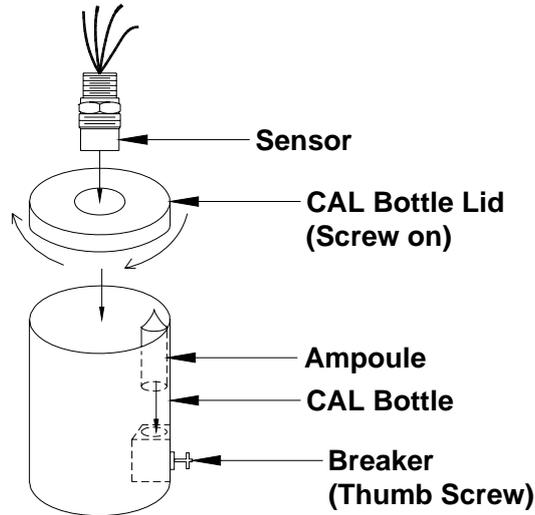

Figure 14 – Breaker Bottle Operation
- If the password option is enabled, the right digit of the display will be blank and a (-) will appear in the left digit on the display (Figure 14). Press the **Mode/Select** switch until the first number of your password is displayed, and then wait about five seconds.